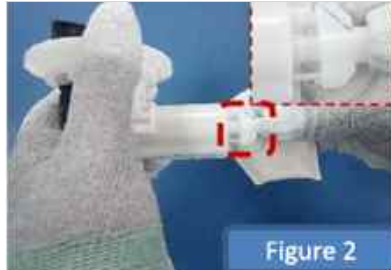

Figure 2
- 2.Align the new Filter & Casing as shown in Figure 2.